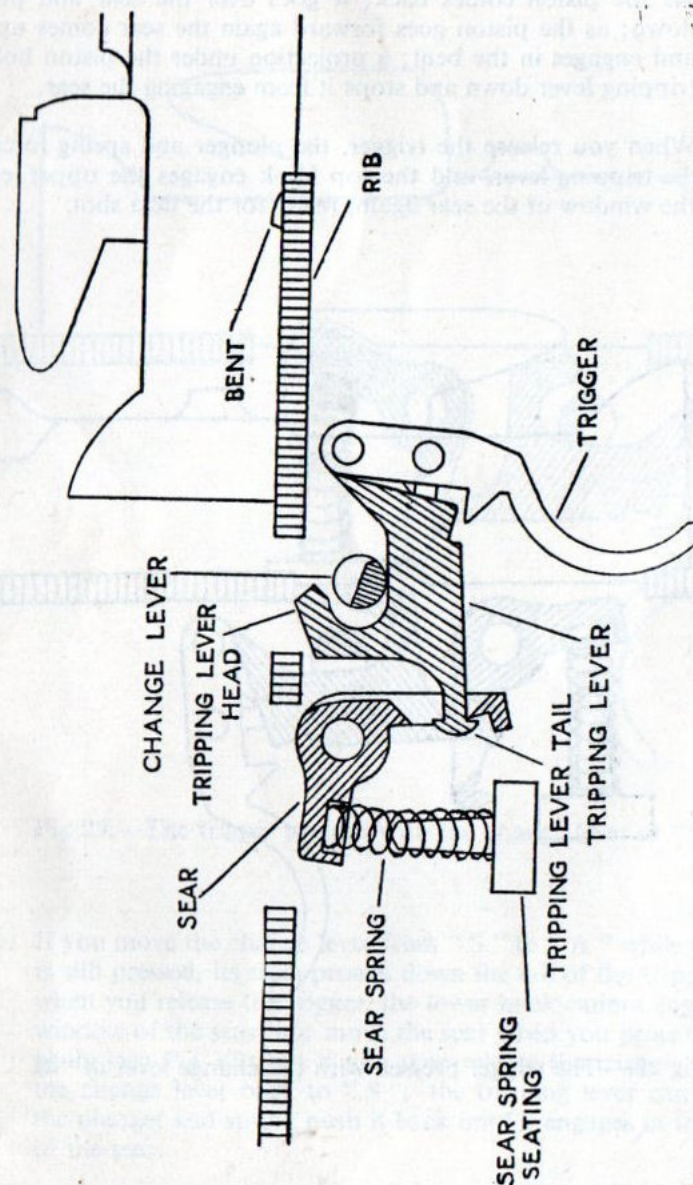

Fig 27.—The trigger pressed with the change lever at “A”
2. **Automatic.**—When the change lever is at "A" (see Fig 27):—